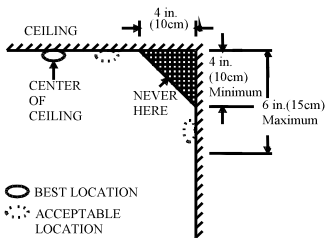
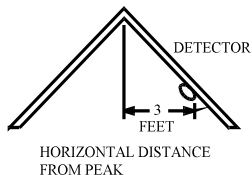

Figure 3: Recommendations for best and acceptable installation locations for installing smoke & heat detectors.
Figure 4: Recommended installation location for smoke & heat detectors in rooms with sloped ceilings or gables (slope >20 degrees).
- Install smoke & heat detectors as close as possible to the center of the ceiling. If it is not practical, install the detector no closer than 10cm to walls or corners (*see Figure 3*).
- If installing on the ceiling is not possible and state and local authorities allow the installation of the detectors on walls, assemble them on walls at a distance of 10cm – 15cm from the ceiling (*see Figure 3*).
- If your home has a sloped ceiling or gables, try to install the detectors 90cm from the highest point of the ceiling, measuring horizontally (*see Figure 4*).
- In areas with still air, such as under pointed roofs or in corners between walls and ceiling. Still air can prevent smoke from reaching the detector (*see Figure 3 and Figure 4 for recommended installation locations*).